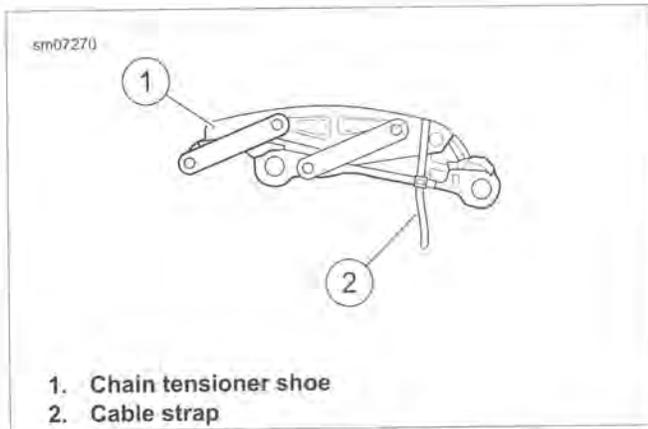

Figure 5-17. Securing Chain Tensioner
- c. See Figure 5-17. Push shoe (1) down until it contacts wedge. Keep tension on shoe so wedge stays in place.
- d. Insert cable strap (2) as shown to hold wedge in place. Verify end of cable strap is located below primary chain tensioner. Cable strap will hang below primary cover gasket surface and serve as a reminder to remove before installing primary cover.